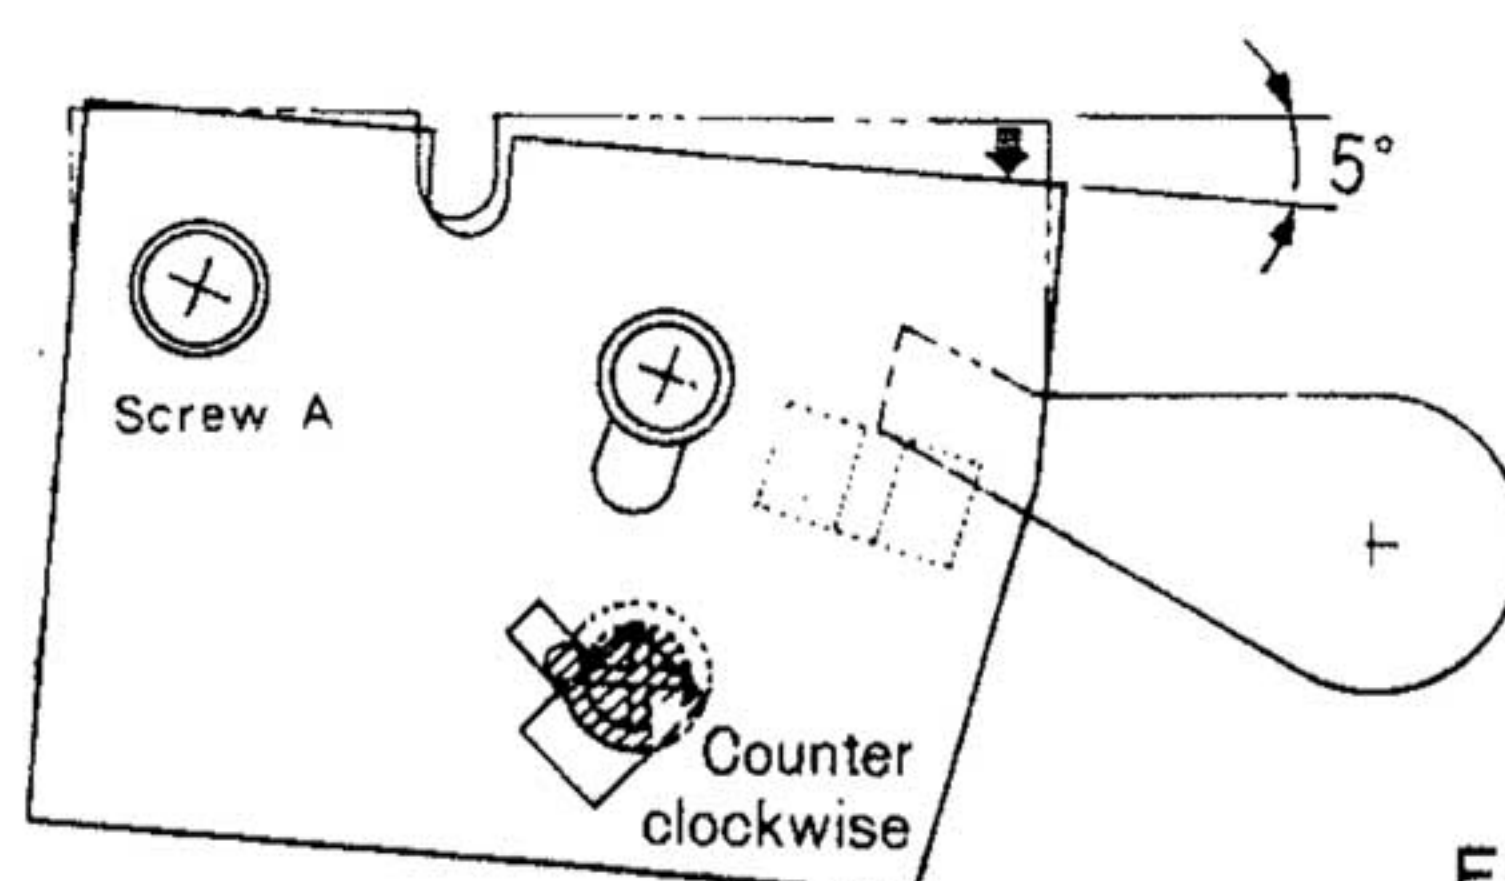

Figure 25
- Turn the Phono PWB Assy clockwise by approximately 5° with the screw A as a center (Fig. 25).
- フォノ PWB assy をビス A を中心に約 5° 傾ける。(図25)